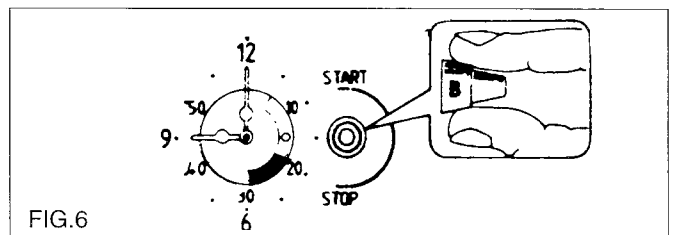

FIG.6
- i) Ensure the electricity supply is switched ON and that the correct time of day is displayed, e.g. 9 a.m. as Fig. 6.